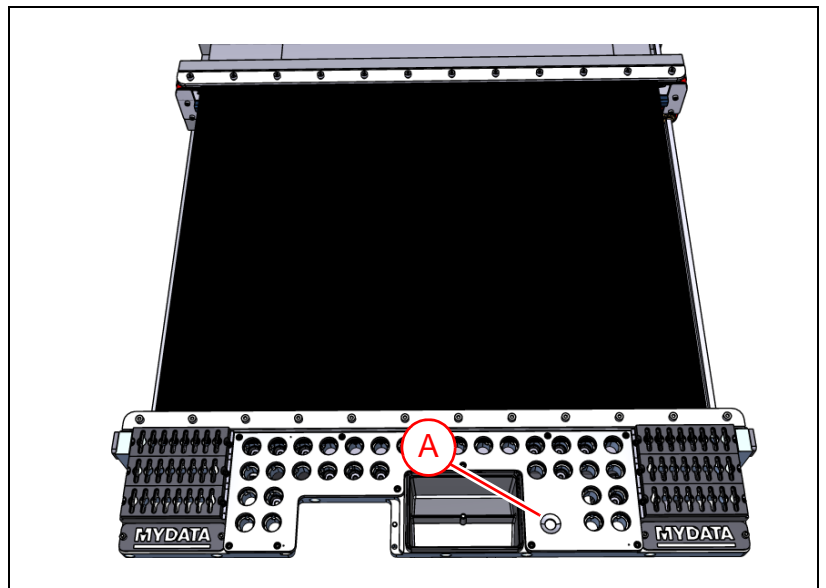

Figure 4-6. Open/Close button.
- Press the Open/Close button ('A' in Figure 4-6) to open the conveyor, this makes it possible to insert the area calibration background. The conveyor closes when the button is released.